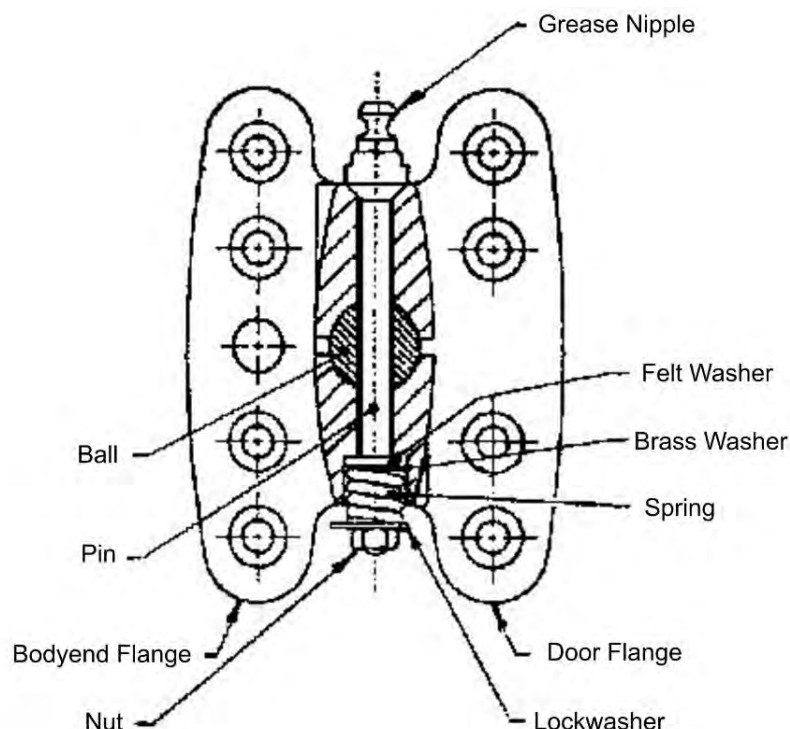

Figure 1: Arrangement of Hinge
- 20.5 Fit the felt washer, plain washer, spring, tab washer and nut onto the lower end of each hinge pin (see Figure 1), tighten the nuts on the hinge pins until the tab washer just contacts the hinge body then turn back one flat, check that the door swings smoothly without binding or any free play in the hinges.